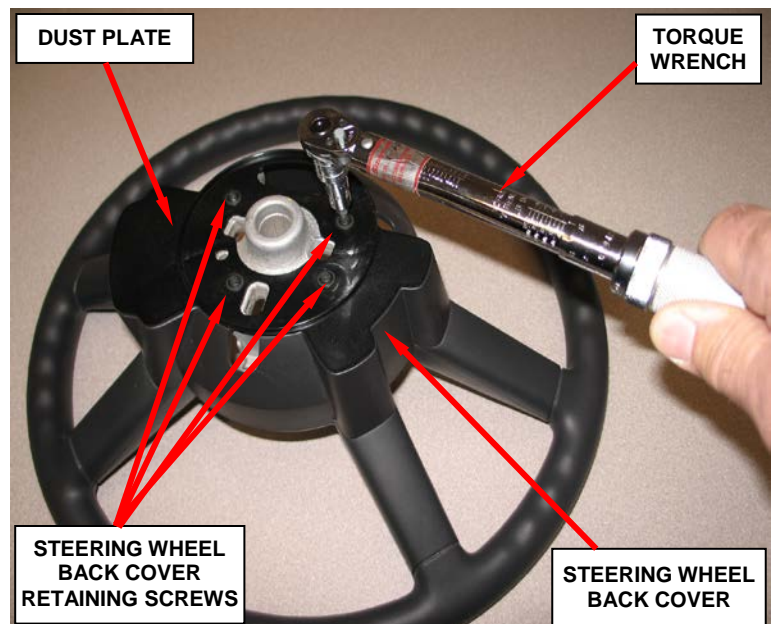

Figure 7 – Steering Wheel Back Cover
24. **Vehicles that are equipped with a dust plate**, remove and discard the original steering wheel back cover retaining screws and dust plate (Figure 7).
28. Remove and discard the original steering wheel back cover (Figure 7).
32. Install a steering wheel cover and retaining screws (Figure 7). Tighten the screws to 35 in. lbs. (4 N·m).